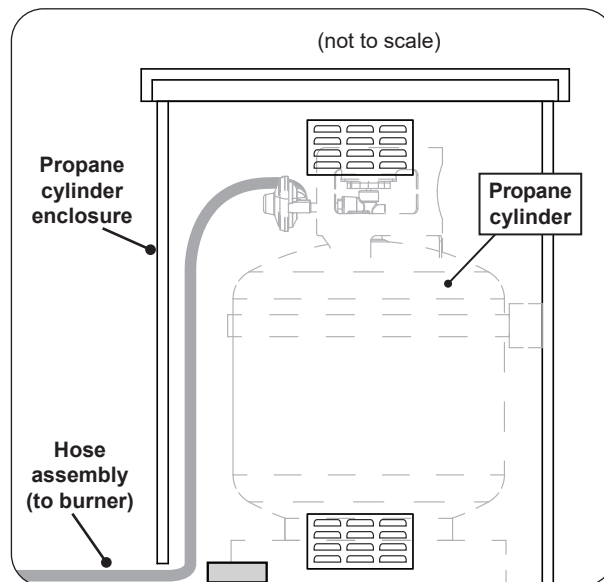

Fig. 30-3 L.P. Cylinder placement
3. The propane cylinder (not included) is to be located inside the separate propane cylinder enclosure (see Fig. 30-3).